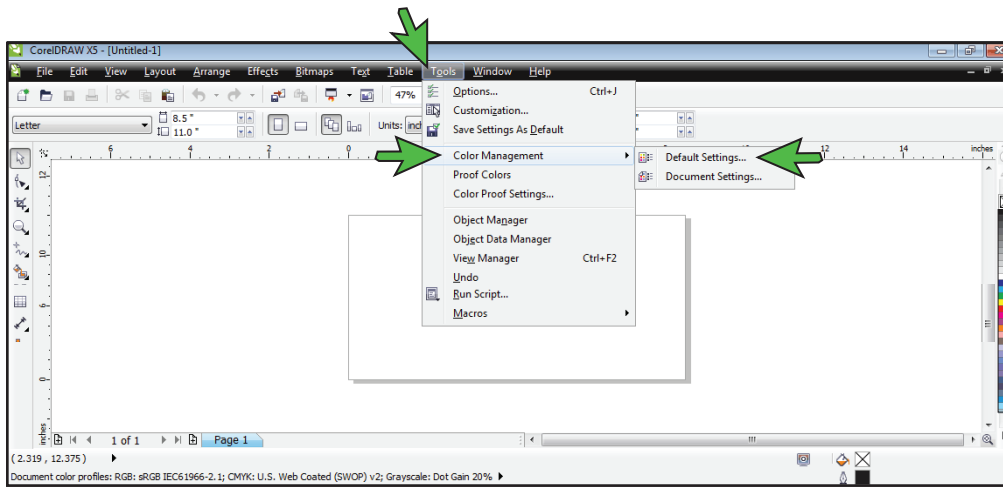

FIGURE 3
3.) In the Menu Bar, click Tools > Color Management > Default Settings: (see FIGURE 3)